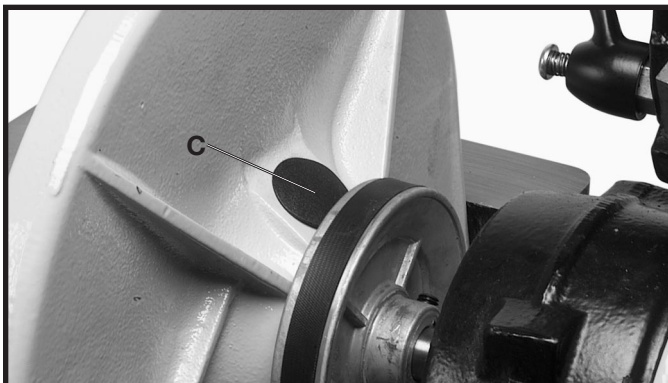

Fig. 21
2. Remove hole plug (C) Fig. 21, and locate the two screws that fasten the disc to the shaft.